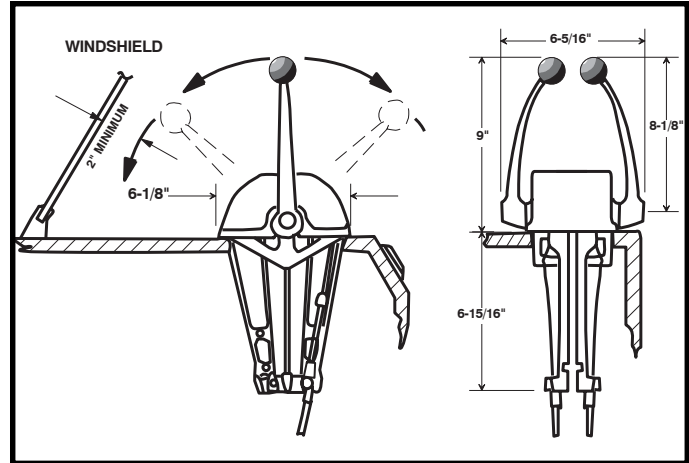

FIGURE 2
- Using the template provided, determine the proper position for the control head. Clearance must be allowed for full forward and reverse movement of the hand lever. (See Figure 2.)